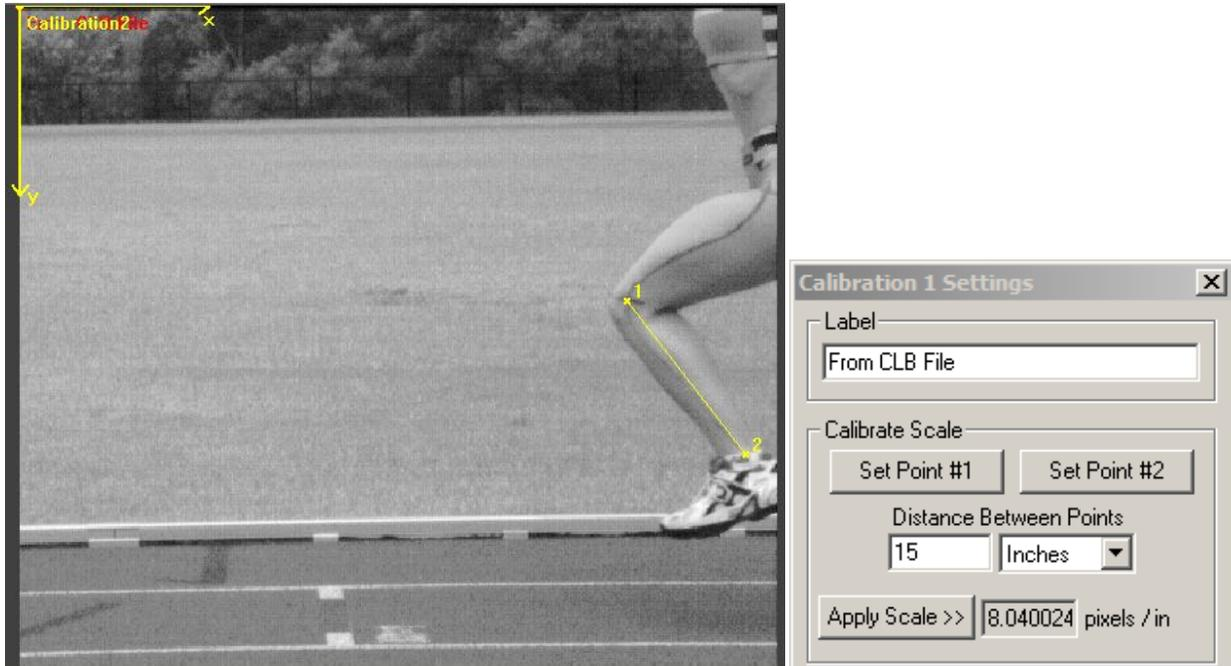

Figure 5. Defining a scale with calibration
7. Click the **Wrench**  icon to the right of Calibration1 to open the Calibration 1 Settings window, shown in Figure 5.